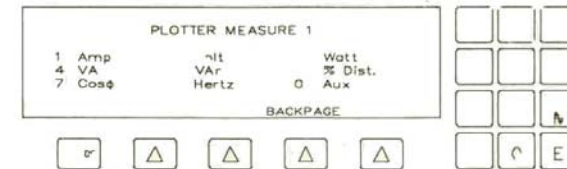

Fig. 3.27
- Press [1] for display of the list of parameters from which plotter measure 1 can be selected (see Fig. 3.27).